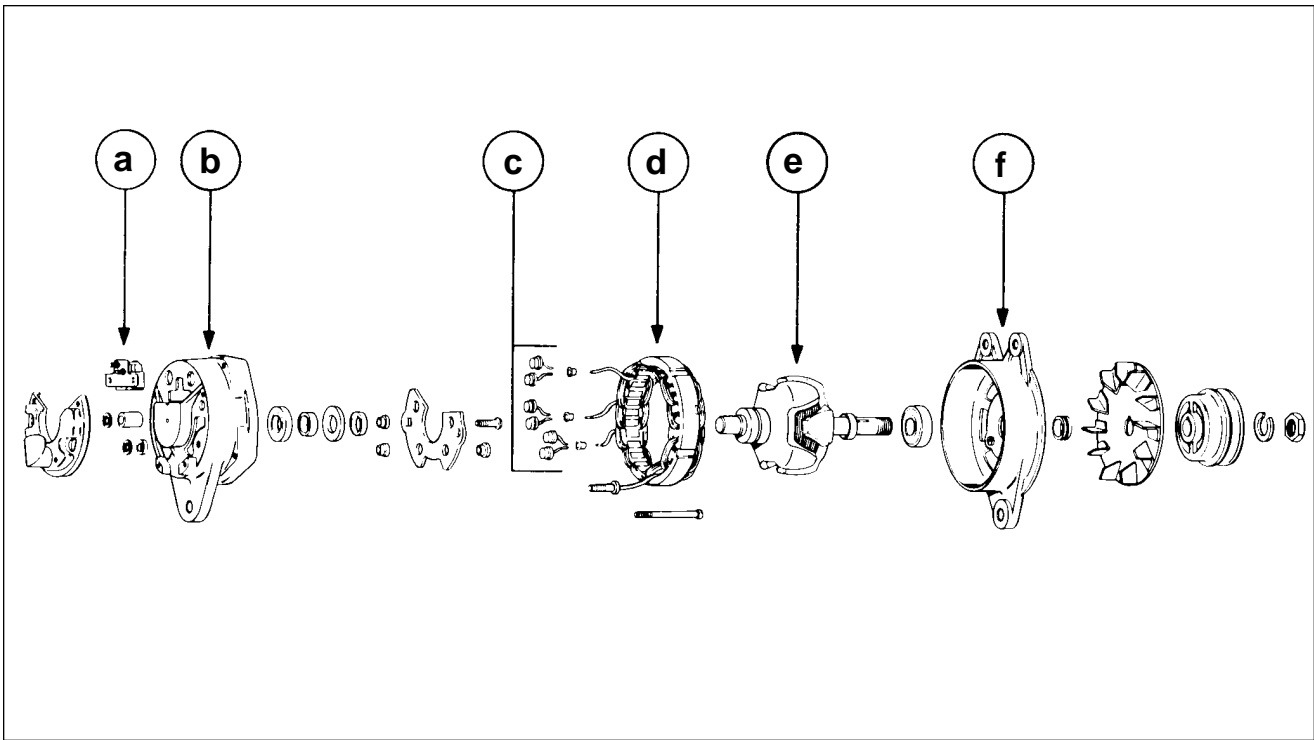

Figure 24-1. Exploded View of Prestolite Alternator
1. Description Of Prestolite Alternator (Refer to Figure 24-1.)